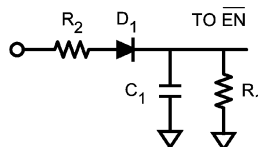
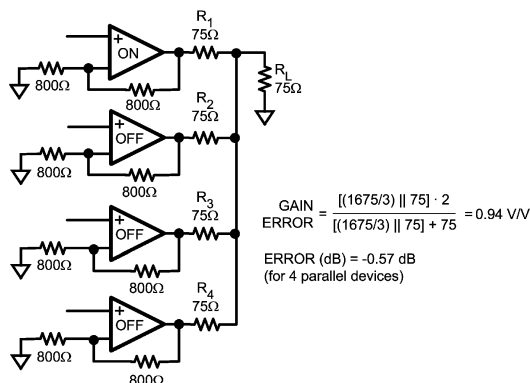

Figure 21. Delay Circuit Implementation
Figure 22. Multiplexer Input Expansion by Combining Outputs
If it is important in the end application to make sure that no two inputs are presented to the output at the same time, an optional delay block can be added prior to the ENABLE(EN) pin of each device, as shown. Figure 21 shows one possible approach to this delay circuit. The delay circuit shown will delay ENABLE's H to L transitions (R_1 and C_1 decay) but will not delay its L to H transition.
With the ENABLE pin putting the output stage into a high impedance state, several LMH6572's can be tied together to form a larger input MUX. However, there is a slight loading effect on the active output caused by the off-channel feedback and gain set resistors, as shown in Figure 21. Figure 22 is assuming there are four LMH6572 devices tied together to form a triple 8:1 MUX. With the internal resistors valued at approximately 800Ω, the gain error is about -0.57 dB, or about -6%.